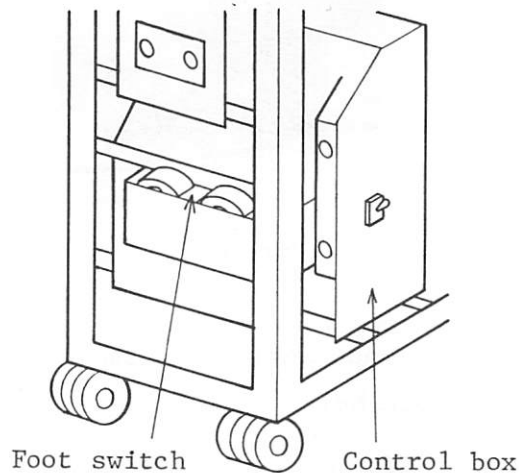

Fig. 4.4
- Take out the foot switches from the pocket on the front cover of control box, pass their cables through the bottom to brought them outside (Fig. 4.4).